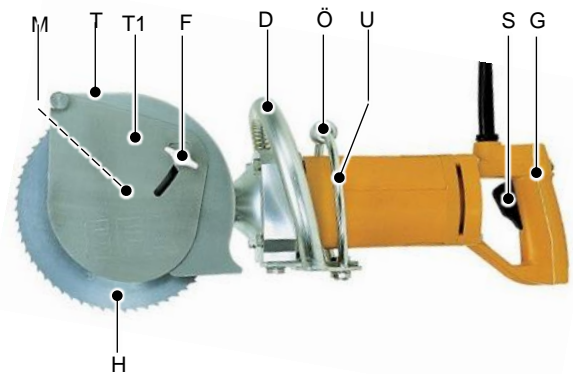

Fig. 7.1 – Saw blade change
Unscrew wing nut (F) and remove depth stop (T1), see Fig. 7.1.